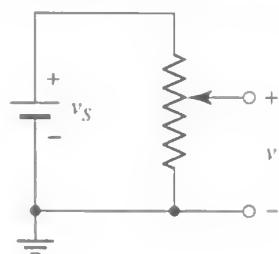

Fig. 7
14. Replace the two resistors of Fig. 5 by the potentiometer, as in Fig. 7. Use any convenient value for v_s . Observe the effect of the potentiometer setting on the value of v . What are the minimum and maximum attainable values of v , in comparison to v_s ?